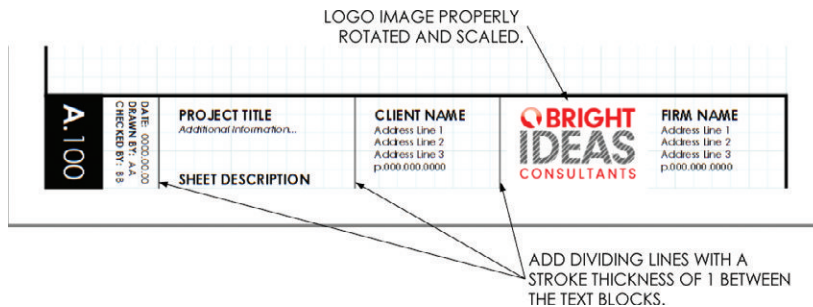

Figure 13.7 The final title block (image rotated for effect)
3. Using the Select tool, rotate, resize, and position the logo image on the title block (Figure 13.7).